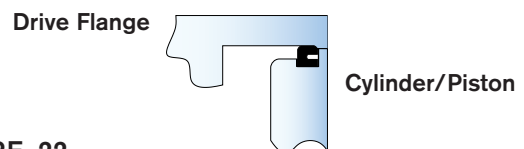

FIGURE 22
NOTE: The back of the Rotary Seal must be installed facing the Drive Flange Assembly end of Torque Limiter (See Figure 22).
5. Install the new Rotary Seal (Item 15) (See Figures 22 and 23).